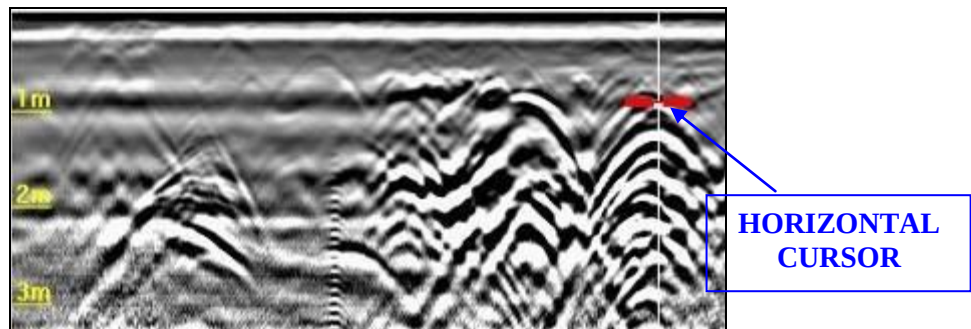

Fig. 5.17 –UP/DOWN functions
- Use the  and  buttons to position the horizontal cursor on the peak of the chosen hyperbola (see Fig. 5.17).